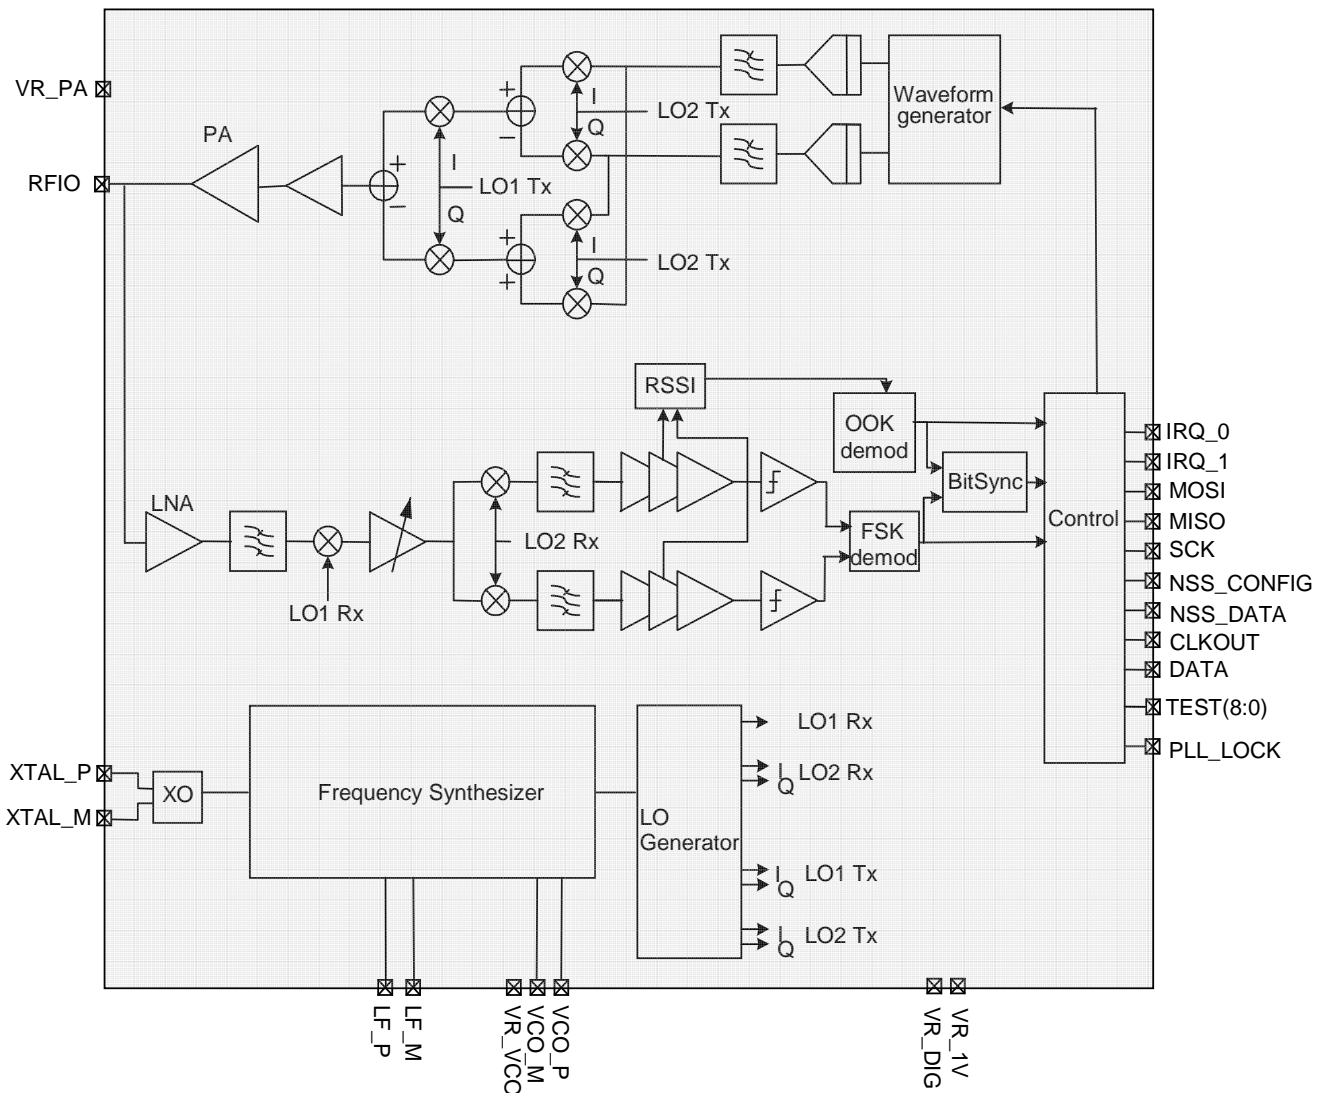

Figure 1: SX1211 Block Diagram
| Figure 1: SX1211 Block Diagram..... | 5 | Figure 31: FIFO and Shift Register (SR)..... | 37 |